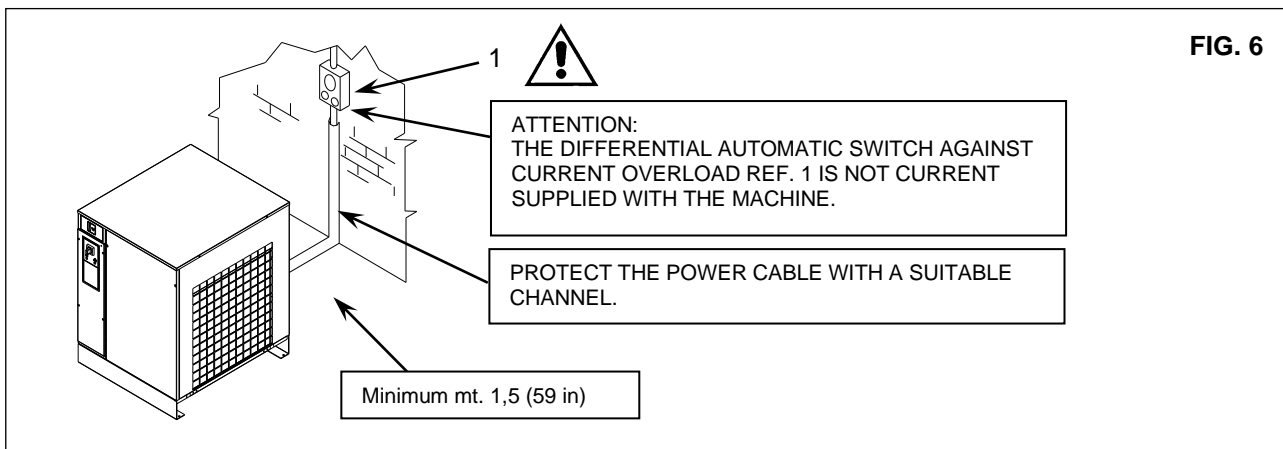

FIG. 6
- ensure that there is sufficient space around the machine to allow maintenance (see Fig. 6).
- **Ensure that there is an automatic cut-out device upstream for the machine against overcurrents, with a differential device ( Ref. 1 Fig. 6 ), wiring diagram.**